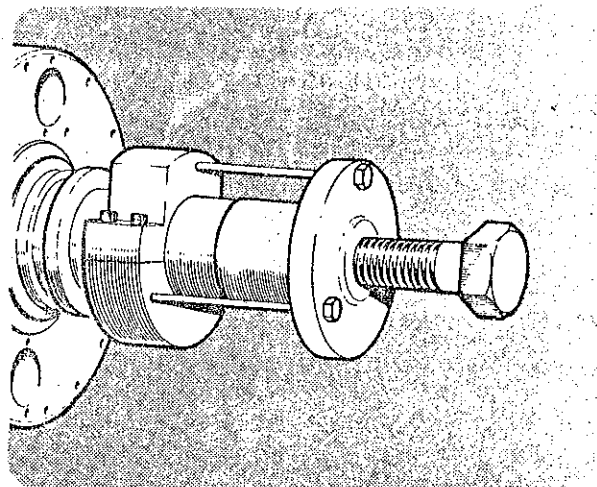

Figure 22. Bearing removal
- (ii) Fit the end of the Bearing remover over the Hub end and tighten the three bolts connecting the clamp and flange as shown in Figure 22.